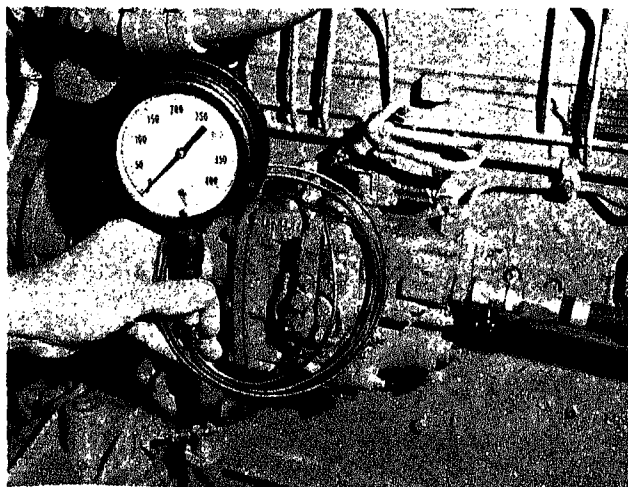

Fig. 14-2-6. Checking fuel manifold pressure
- b. To take "snap" pressure readings, attach the ST-435 pressure gauge at the shut-down valve in the usual manner, Fig. 14-2-6.